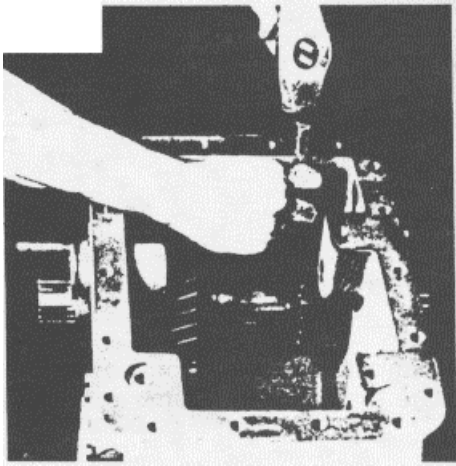

Fig. 5
3. Use a brass rod or aluminum bar to protect the end of the shaft, tap threaded end enough to place the direct drive gear (Item 22) just against the inside back wall of the transfer case housing. Slide the underdrive pinion gear (Item 19) toward the front of the case. This will expose the split retaining ring (Item 20 See Fig. 5). Use a drift to drive the retaining ring from the shaft.